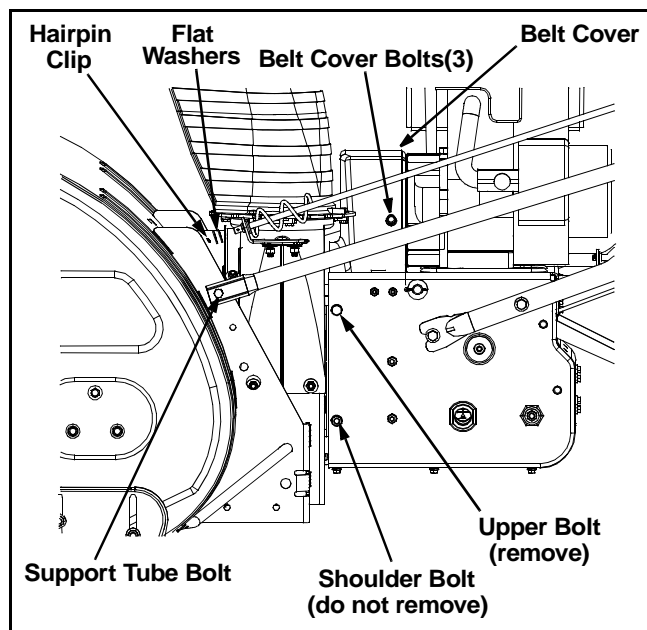

Figure 16
- Remove the plastic belt cover, located near the engine, by removing the three self-tapping screws and flat washers that secure it. See Figure 16.
- Remove the upper bolts and lock washers which attach the auger housing assembly to the frame assembly using a 9/16" wrench. See Figure 16.
- Secure the two halves with the two bolts and lock washers removed earlier. Refer to Figure 16.